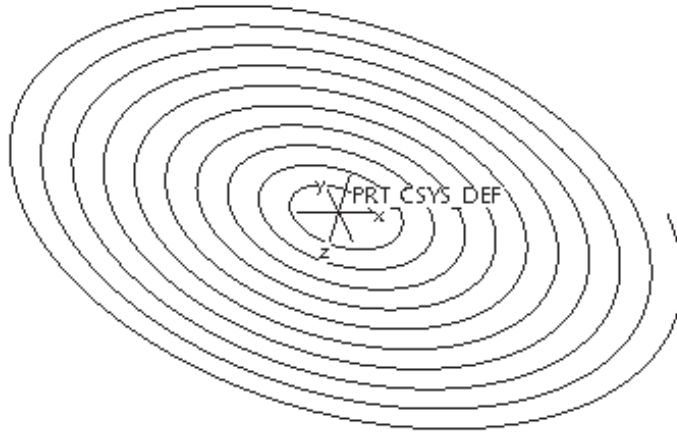

Figure 7-42 Spiral-shaped datum curve
5. Choose **OK** from the dialog box to exit. The datum curve appears in the drawing area, as shown in Figure 7-42.